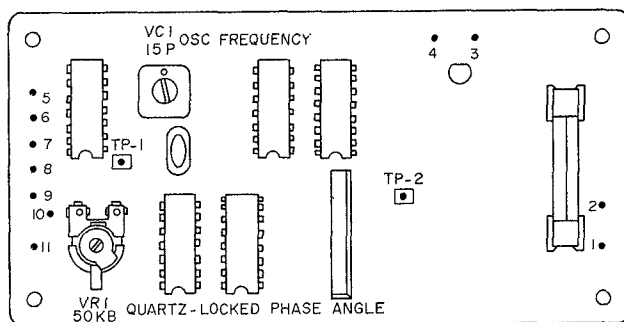

Fig. 20
- Depress the QUARTZ LOCK button in (ON).
- Adjust VR1 until the width of the upward pulse above 2 to 4V is 22 ± 2 msec when the stroboscope pattern is seen standing still, as Fig. 20.